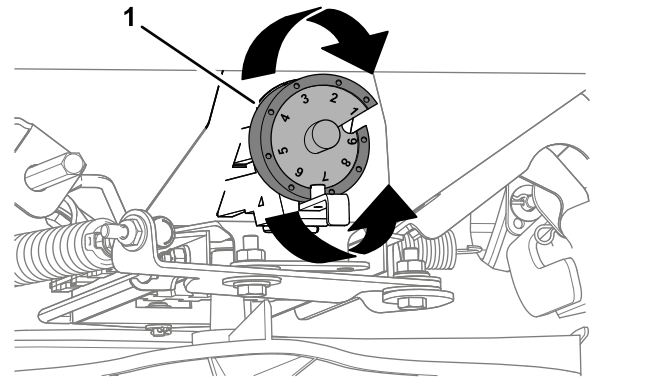

Figure 23
- Rotate the drop rate cam (Figure 23) to the cam setting you determined in step 4.